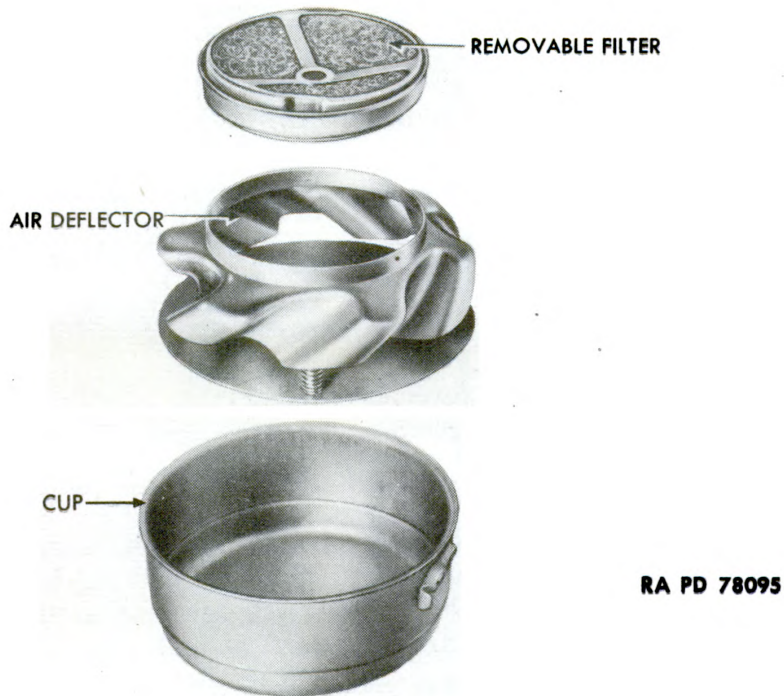

Figure 40 – Air Cleaner Servicing Units
c. Maintenance. Daily, or more often in severe dust conditions, inspect the air cleaner by removing cup, to determine if steel-wire elements, deflector, and oil in cup are dirty (fig. 40). If so, empty oil from cup and clean each unit by washing in **SOLVENT**, dry-cleaning. Place the clean deflector in cup and fill cup with **OIL**, engine (seasonal grade), to level indicated on the center of the deflector. To remove air cleaner cup, push cup up against cleaner body, rotate to left, and lower away from cleaner body. If, on inspection, the steel-wire mesh in cleaner body appears to be dirty, remove entire cleaner assembly and clean mesh in body with **SOLVENT**, dry-cleaning, and allow to dry.